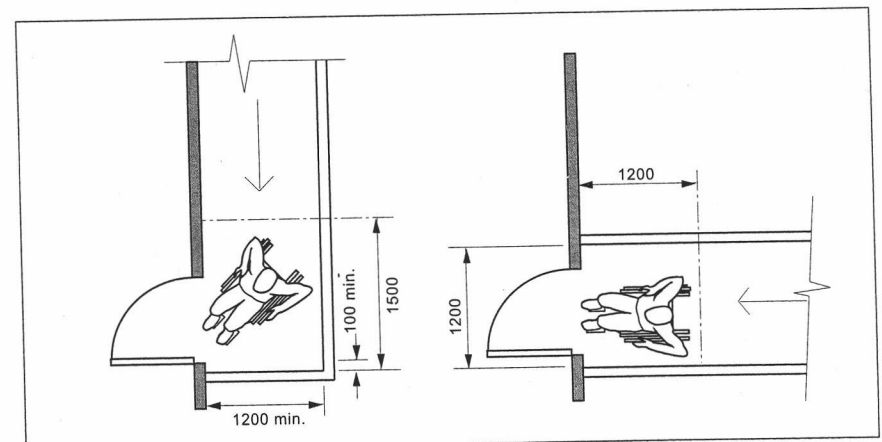

Figure 15 – Landings to inward opening doors
- Where the door opens away from the ramp, a level rest area shall be provided in accordance with figure 15.